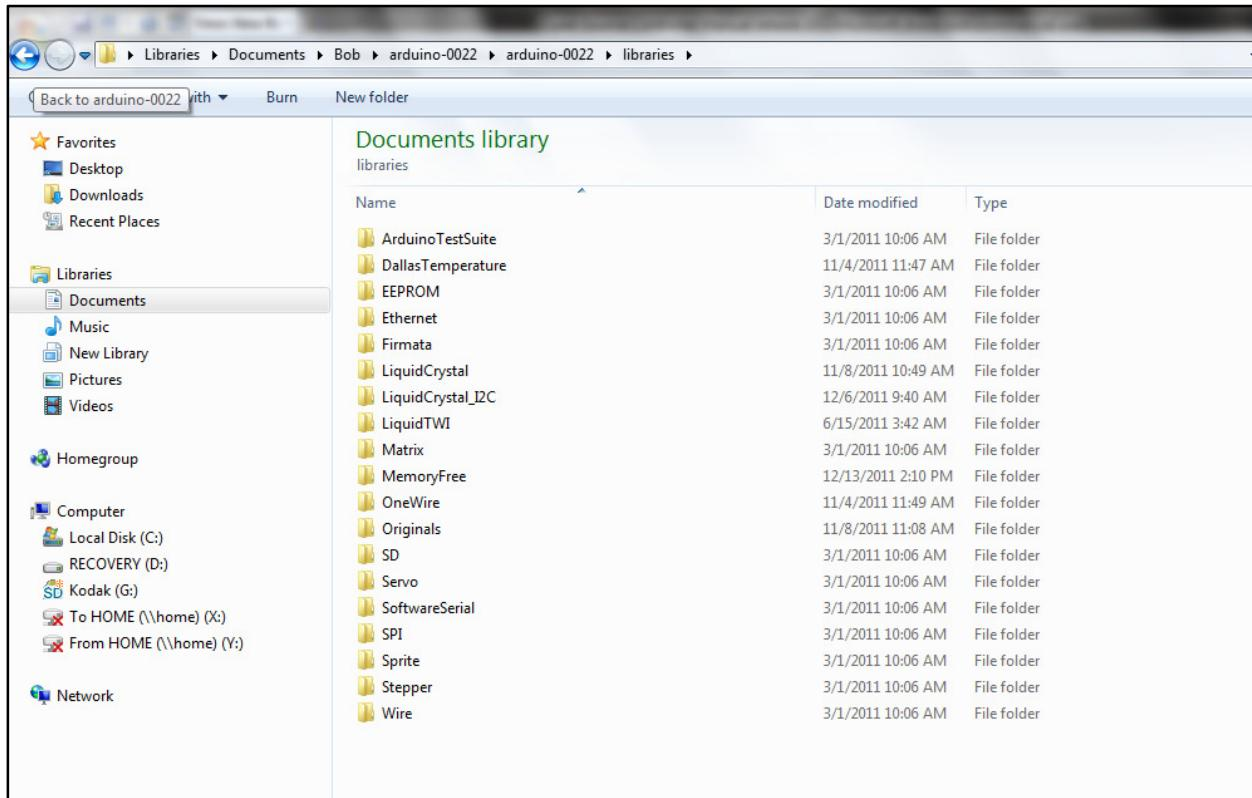

Figure 3-8. Contents of the Libraries Folder.
Note that there is a folder called “libraries” in the arduino-0022 folder. Now double click to open the libraries folder and you will see a list of the libraries similar to figure 3-8.
At this point, you should have a list of library folders similar to folders shown in figure 3-8 EXCEPT that the following libraries (folders) will NOT be present on your system:
- Copy and paste each of these folders from this temporary archive folder to the “libraries” folder that you displayed in figure 3-8. Note: do not open these library folders! Just copy them intact to the arduino-0022 “libraries” folder so that your display is similar to figure 3-8. Make sure that you have copied all four of these library folders to your arduino-0022 “libraries” folder by checking the updated contents per figure 3-8. If the PC display shows that these library folders have been added, you have successfully completed this step.